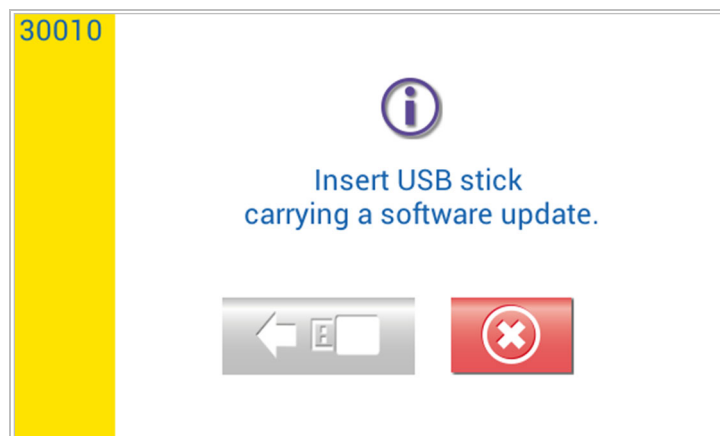

Figure 34
- Select the source of the update by touching the **USB flash drive** icon (**Figure 34**).